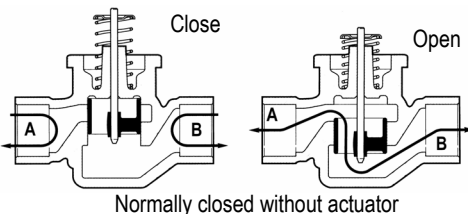

Fig. 2: Flow direction
3. The valve may be installed with flow from A to B, or B to A (Fig. 2). The valve body may be plumbed in any angle but not with the actuator below the horizontal level of valve body (Fig. 3). Make sure there is enough room around the actuator for servicing or replacement. Install the valve in a good location for future maintenance, leaving an extra 25 mm head clearance required to remove the actuator.